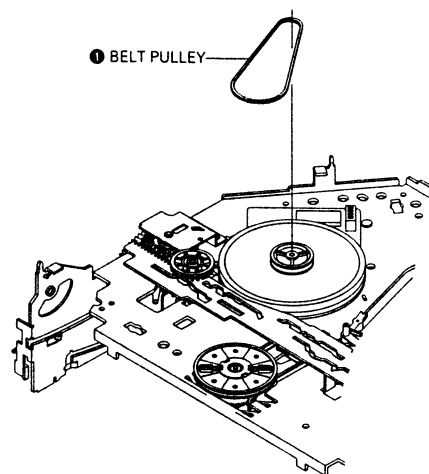

Fig. 1-29 Belt Pulley Removal
- 1) Remove the Belt Pulley. (Refer to Fig. 1-29)
- 2) Remove the Gear Loading Drive ❶ after releasing Hook [A] in the direction arrow as shown in detail drawing.
- 3) Remove the Slider Cam ❷.
- 4) Remove the Lever T, S Load Ass'y ❸, ❹.